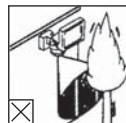

Fig. 19
- Avoid mounting the sensor near heat sources, such as heating vents, air conditioners, dryer vents or lights. (See Fig. 19).